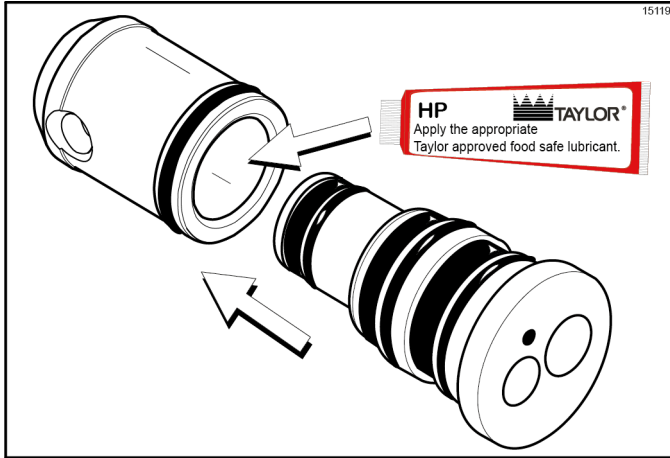

Figure 6-20
4. Put a small amount of lubricant on the inside diameter of the piston. Insert the narrow end of the liquid valve body into the open end of the piston. Once applied, the amount of lubricant should be equal to a paper-thin film. (See Figure 6-20.)